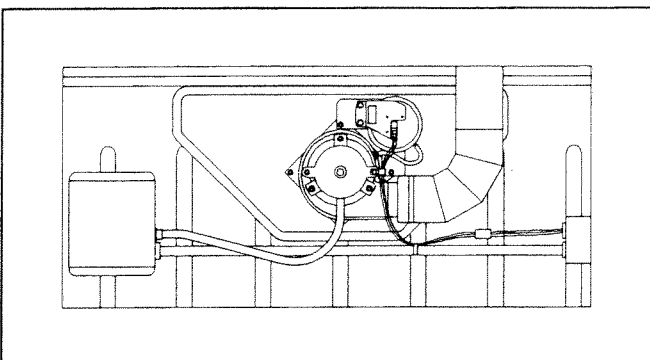

Figure 29. Inducer Assembly Rear Position.
2. Place draft inducer on four mounting studs with vent outlet on the right. See Figure 29. Attach draft inducer to draft inducer collector box. Use four #8-32 hex nuts from hardware package. Tighten to torque of 60 inch-pounds.
1. Install pressure switch on mounting studs at top and right side of draft inducer. Use #8-32 hex nuts from hardware package. See Figure 29.
3. Connect pressure tubing to draft inducer pressure fitting as shown in Figure 29. Be sure tubing is open and has no kinks or splits.
5. Remove wire clamp on left hand side of draft inducer motor mount. See Figure 29.
9. Install wire tie provided in hardware package around pressure switch wires and fan/limit control conduit. Tighten securely. Place wire tie directly beneath wire clamp. See Figure 29.
11. Compare completed installation with Figure 29.